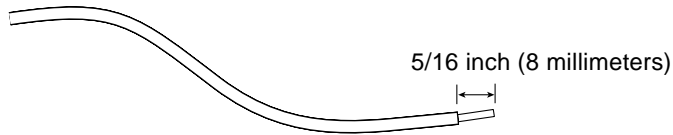

FIGURE 2-6 Stripping the Insulation From the Wire
4. **Strip 5/16 of an inch (8 millimeter) of insulation from each of the wires** (FIGURE 2-6).